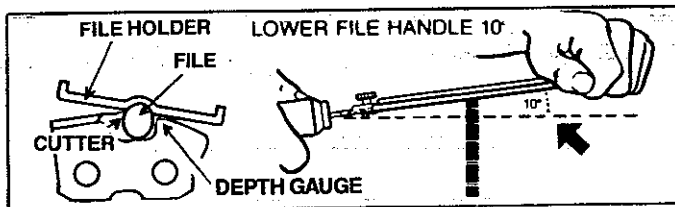

Figure 30
- a.) Support the square rod on the file holder (with 7/32" round file) on cutter top plate. Figure 30.
- b.) Hold the file holder level with the 30° guide mark parallel to the center of the chain and lower file handle 10°. Figure 30.